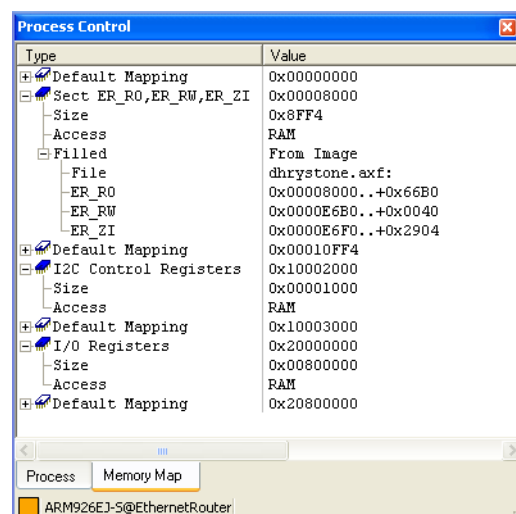

Figure 5-12 Memory map with dhrystone image loaded
5. Expand the Sect ER\_R0,ER\_RW,ER\_ZI block as shown in Figure 5-12 on page 5-18. Details of the loaded image are visible.